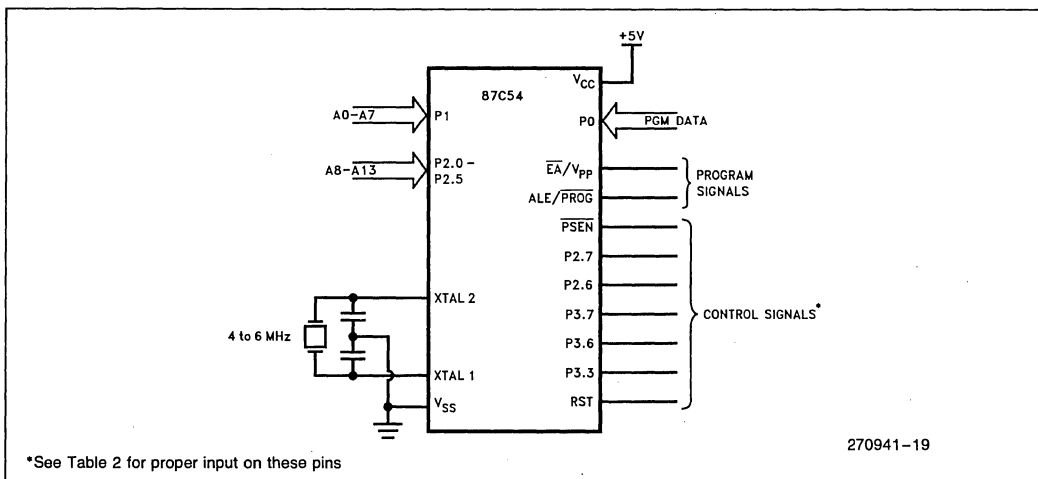

Figure 10. Programming the EPROM
Refer to Table 2 and Figures 10 and 11 for address, data, and control signals set up. To program the 87C54-20 the following sequence must be exercised.
5. Pin numbers deleted from Figure 10.